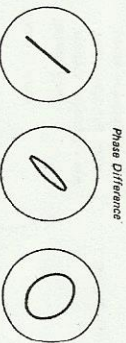

Fig. 12-10 Lissajous figures
- (1) Playback the 2nd tone (400 Hz) of SONY alignment tape J-19-F1 or J-19-K1.
- (2) Adjust the p.b. head azimuth adjusting screw to obtain the Lissajous figure with no phase difference as shown in Fig. 12-10 on the oscilloscope.
- (3) Playback the 1st tone (10 KHz) of SONY alignment tape J-19-F1, or J-19-K1.
- (4) Adjust the p.b. head azimuth adjusting screw exactly so that the phase difference between L-CH and R-CH is less than 90°.